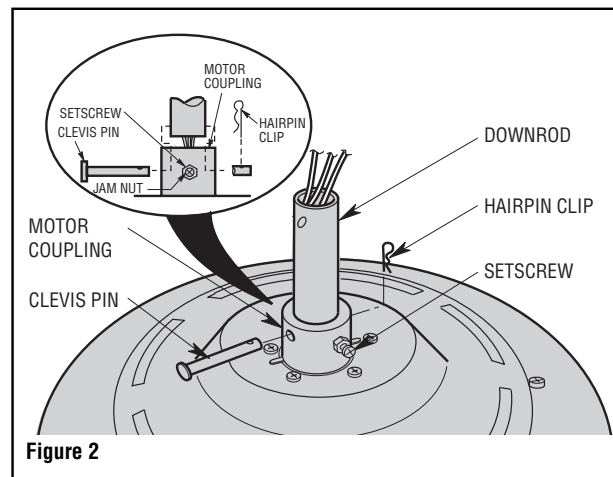

Figure 2
2. Separate, untwist and unkink the three 80" motor leads. Route the motor lead wires through the downrod. Align the clevis pin holes in the downrod with the holes in the motor coupler. Install the clevis pin and secure with the hairpin clip (Figure 2). The clevis pin must go through the holes in the motor coupler and the holes in the downrod. Be sure to push the straight leg of the hairpin clip through the hole near the end of the clevis pin until the curved portion of the hairpin clip snaps around the clevis pin. The hairpin clip must be properly installed to prevent the clevis pin from working loose. Pull on the downrod to make sure the clevis pin is properly installed.
It is critical that the clevis pin in the motor coupler is properly installed and the setscrew securely tightened. Failure to verify that the pin and setscrew are properly installed (as shown in Figure 2) could result in the fan falling.